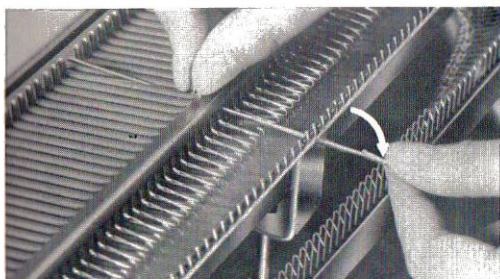

Fig. 3
- 4) Push down the hook of the needle, until shank end of the needle rises free of the needle bed. (See Fig. 3)